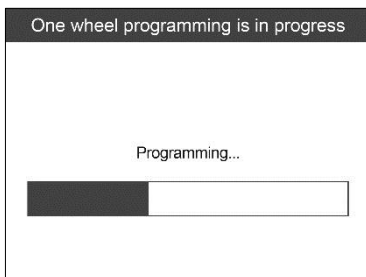
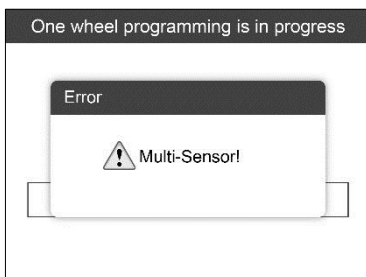

Figure 5-18
Figure 5-19
- 4) Press the **Y** button to write in the new created sensor ID to the MX-Sensor and the screen will show as below (*Figure 5-18*). If an error prompts, please keep the MX-Sensor to be programmed away from other MX-Sensor (*Figure 5-19*).